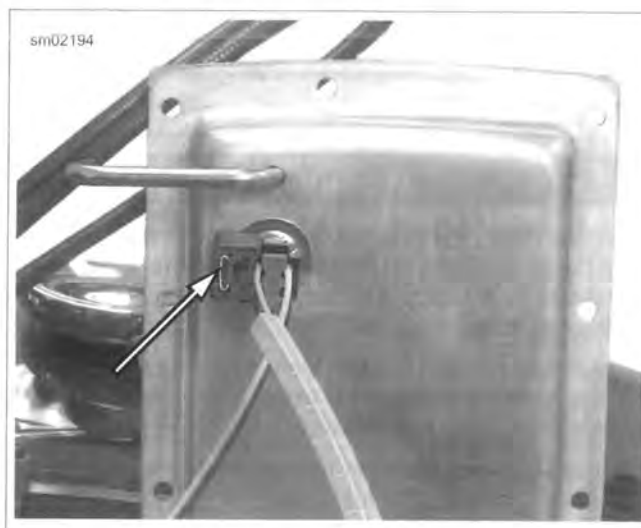

Figure 4-35. Connector Tab
10. See Figure 4-35. Press tab and remove fuel pump/sender wiring from top plate. Remove top plate.